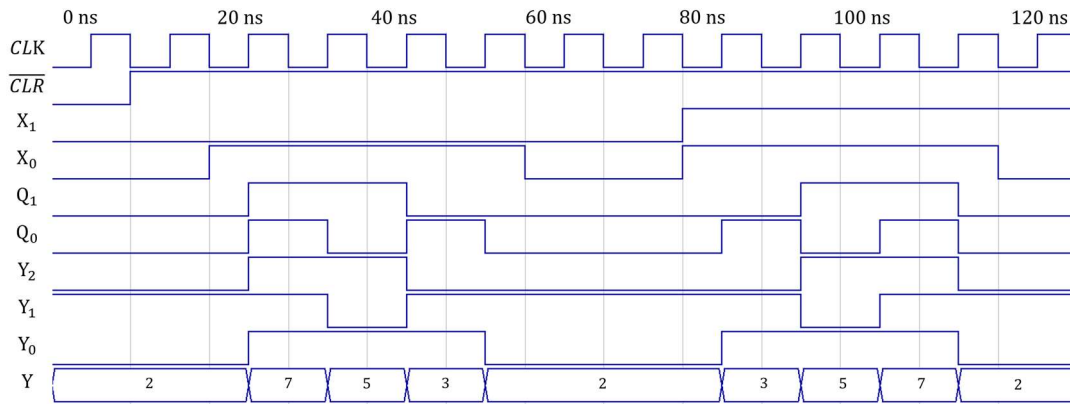

Figure 6: Prime-Counter Timing Diagram from Simulation
Figure 6 shows the simulation results which verify (1) – (5). The design and testbench code for this simulation are found in Attachment 1.
Shown in Table 4, the procedure involves assembling and testing the modules sequentially. After each module is assembled, all cases in Table 1(a) are verified by pulling the inputs high or low as specified by the table and comparing the outputs indicated by LEDs to the expected output given by Figure 6.